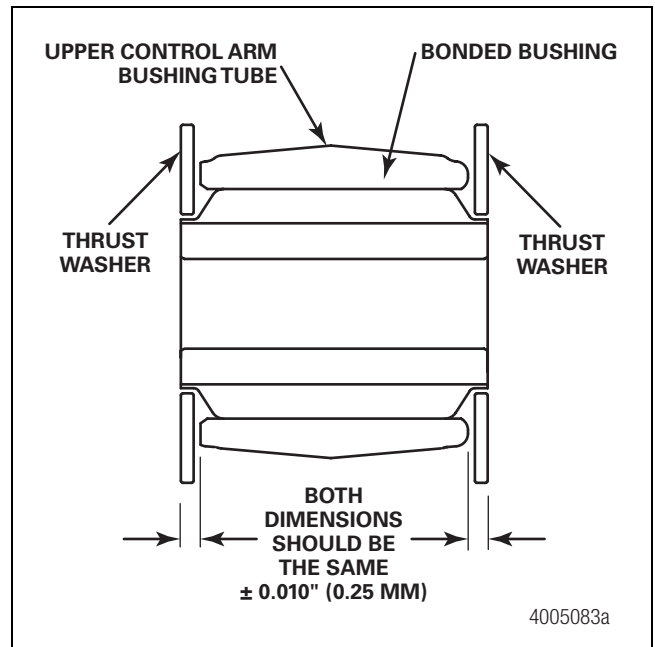

Figure 8
16. Ensure that the bonded bushing is centered in the upper control arm bushing tube from side-to-side. Install the thrust washers onto the bonded bushings. Figure 8.